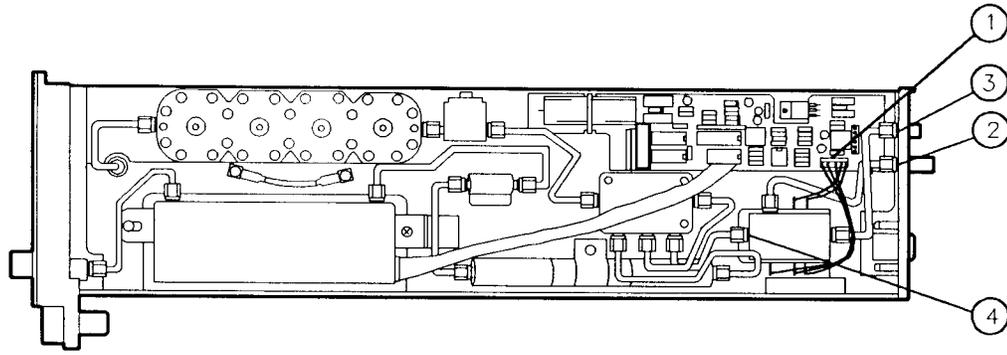

Figure 6-11. A12 Leveling Amplifier Replacement
3. Disconnect the W1 cable assembly of the A12 Leveling Amplifier from the A1 Miscellaneous Bias J2 (1). See Figure 6-11.
4. Loosen semirigid cables W7 and W8 at the rear panel. Disconnect the remaining end of both the W7 cable (2) and the W8 cable (3) from the A12 Leveling Amplifier.
5. Disconnect the SMA connector between the A12 Leveling Amplifier LO OUT (4) and the LO input of the A11 First Converter.